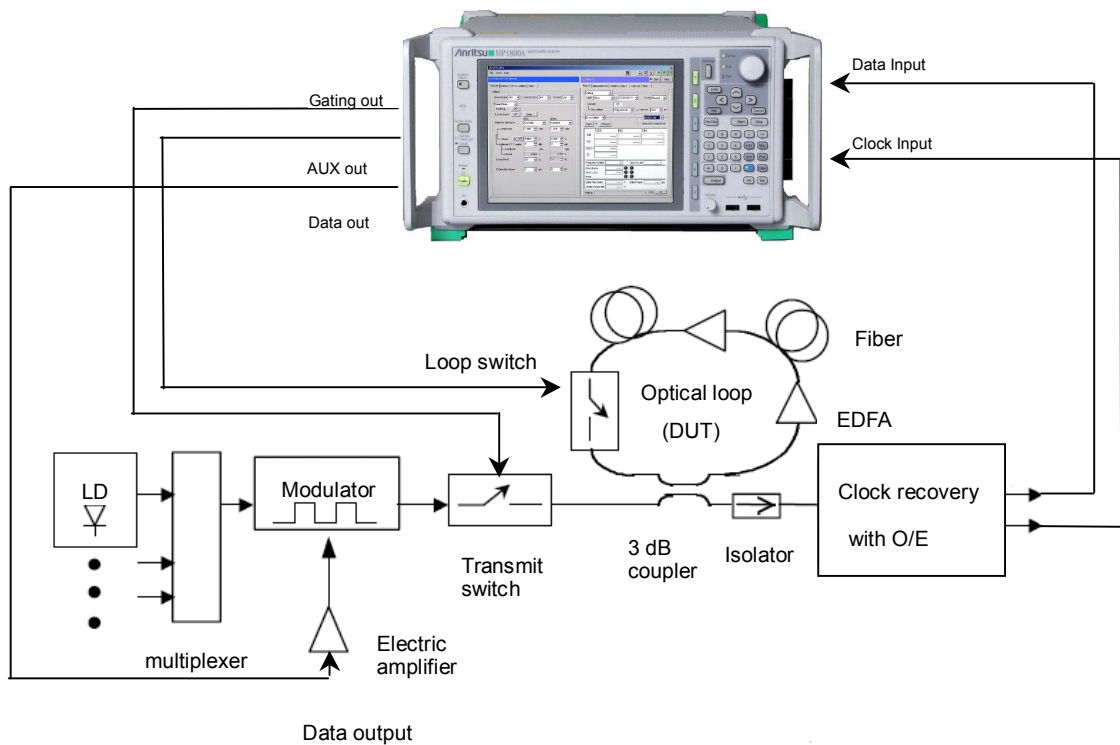

Figure 6.3.1-1 Connection diagram for optical circulating loop test
A typical system for the optical circulating loop test is shown in Figure 6.3.1-1. The following shows a test example where the MU181000A, MU181020A, and MU181040A are mounted onto one MP1800A mainframe.
4. Connect the measuring instruments and the DUT. See Figure 6.3.1-1 for connection of the instruments.